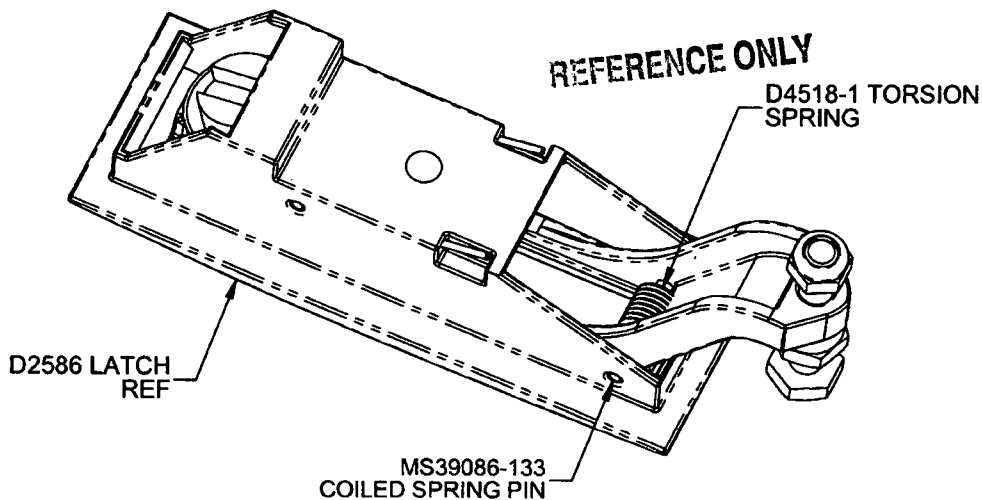

FIGURE 1: TORSION SPRING REPLACEMENT (DSI 9585-011)
- 3) Install D4518-1 Torsion Spring by inserting provided MS39086-133 Coiled Spring Pin in place using adequate tool. Refer to Figure 1 of this service instruction.